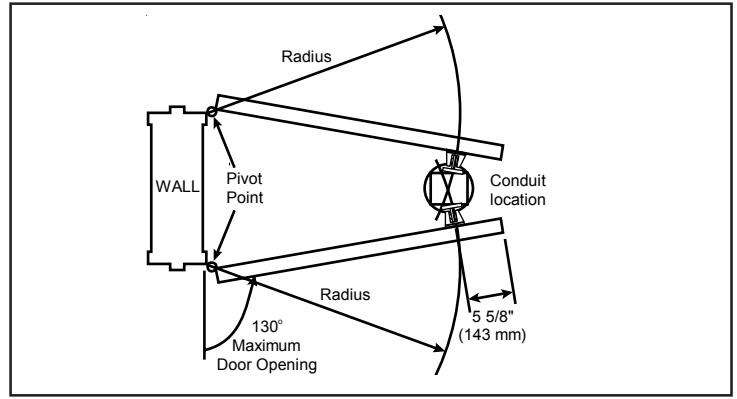

Figure 2. Double Door Conduit Location
3. **Double Door (Figure 2):** Using the radius calculated in step 1, draw an arc (using the pivot point of each door as the center point) through the desired location of the door opening. Locate the conduit where the two arcs intersect.